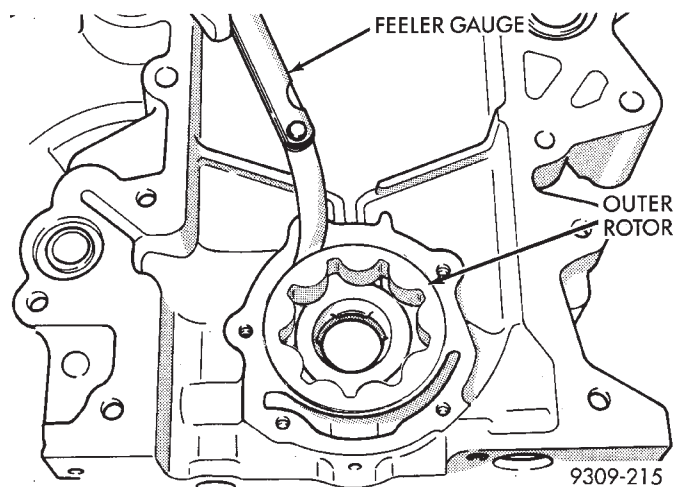

Fig. 10 Measuring Outer Rotor Clearance in Housing
- (5) Slide outer rotor into CCC, press to one side with fingers and measure clearance between rotor and CCC (Fig. 10). If measurement is .39mm (.015 inch) or more, replace CCC only if outer rotor is in specification.